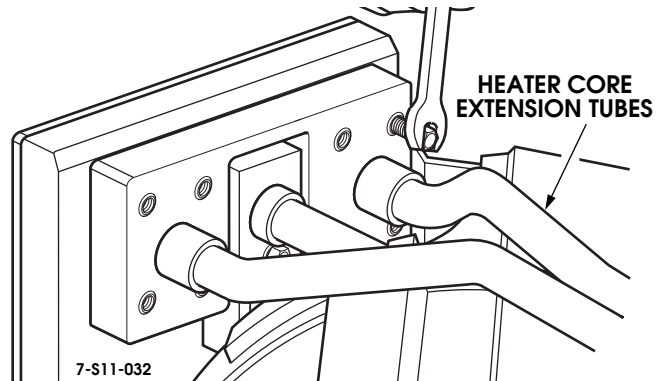

Figure 11-69: Heater Core Tube Removal
4. Remove 4 bolts securing heater tube mounts to passthrough plate (Figure 11-69).